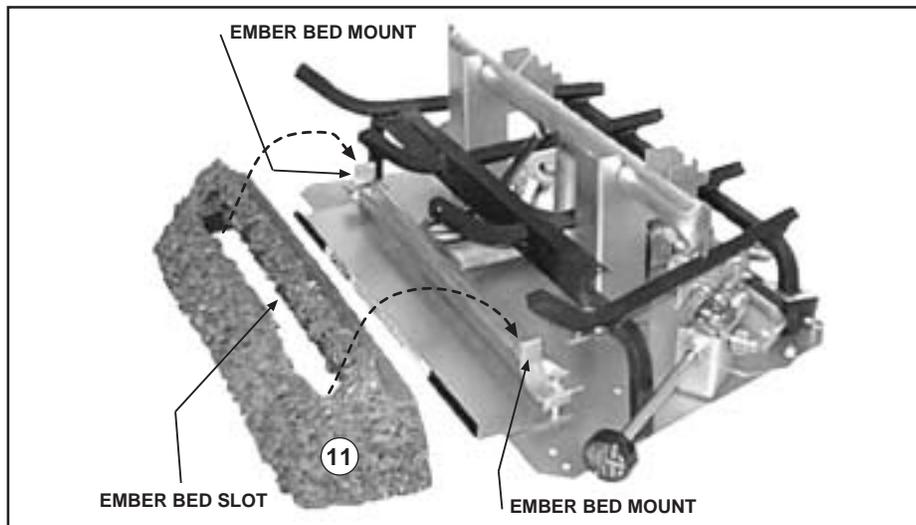

Figure 15
1. Lift the grate and carefully position the ember bed (item 11) down on the front burner so that the slot in the ember bed fits over the ember bed mounts at each end of the burner. This will properly center the ember bed over the burner. Be sure the grate is properly re-positioned on the base plate with the rear legs of the grate in the slots provided (Figure 15).